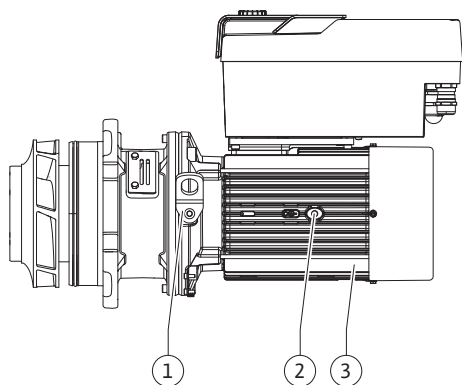

Fig. 108: Motor impeller unit
13. Insert the motor impeller unit (see Fig. 108) into the pump housing in the old or another desired angular position. Observe permitted installation positions of the components (see section "Permitted installation positions and change of the arrangement of components before installation" [► 24]).